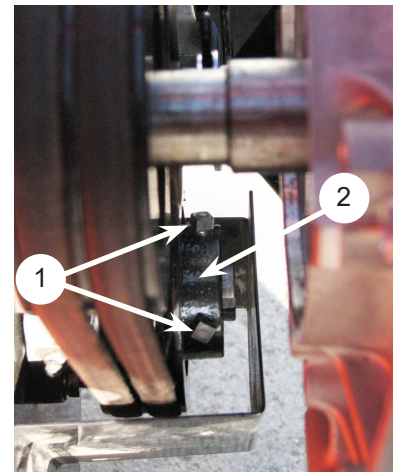

Figure 5.7, Rotor Shaft Belt Pulley
6. Loosen the set screws holding the belt pulley on the rotor shaft (Figure 5.7). Move the pulley on the shaft so it is aligned with the engine drive pulley. The pulley should be moved the same amount the rotor was moved, only in the opposite direction. Torque pulley set screw to 160 in-lbs.